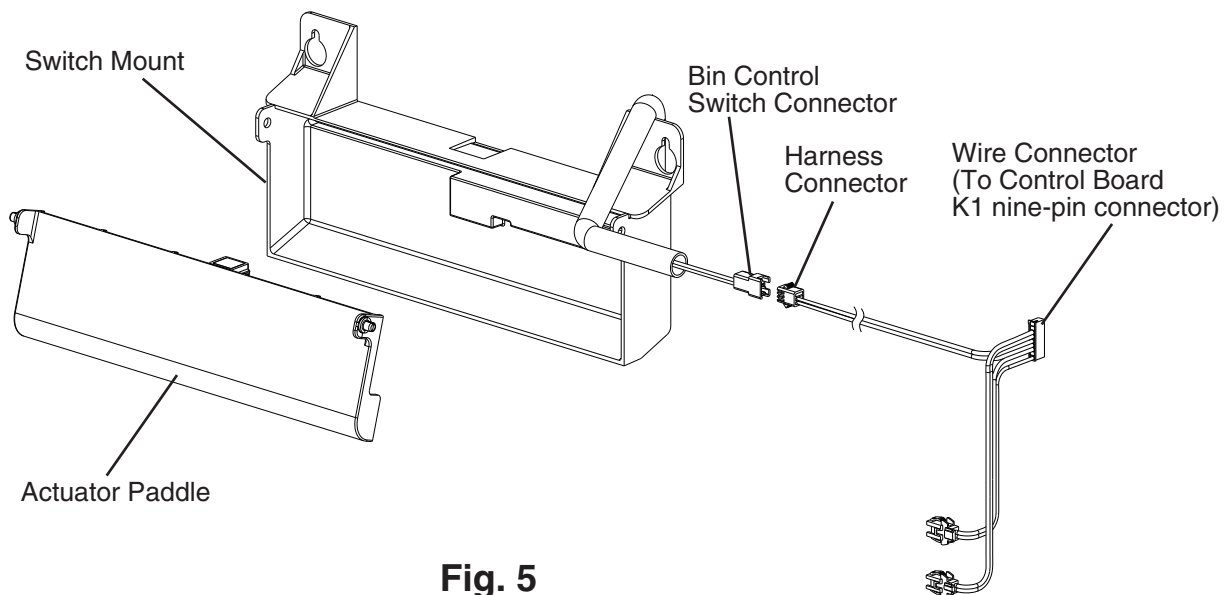

Fig. 5
- 5) Check for continuity across the black wires (4 & 5) of the wire connector. When the actuator paddle is not engaged, the lever-actuated bin control switch is closed. If the lever-actuated bin control switch reads open, check that the harness connector is secured to the bin control switch connector and that the actuator paddle is not sticking. See Fig. 5. Clean if necessary. See "IV.C.2.b) Bin Control Cleaning." If the bin control switch still reads open, replace the bin control.
- 5) Remove the actuator paddle from the switch mount. See Fig. 5.